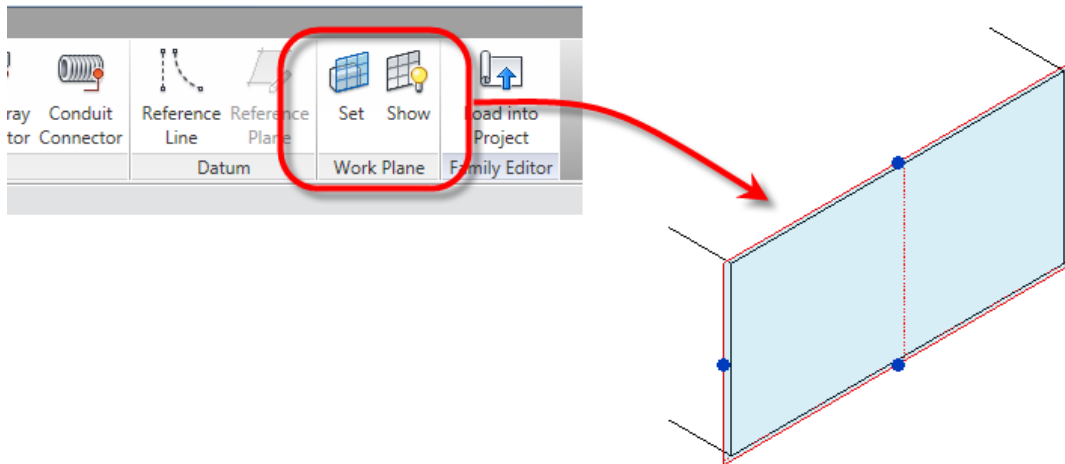

Figure 8. Setting the current Work Plane and toggling display.
5. Check and set the Work Plane for the sketch geometry. It is important to do this first, if for no other reason than to ensure that you're drawing the sketch where you think you are (see Figure 8). Note that you can also set the current Work Plane at any time by selecting the Work Plane
tool on the “Home” ribbon, and you can display the current Work Plane using the Work Plane Display toggle on the ribbon as well (see Figure 8).